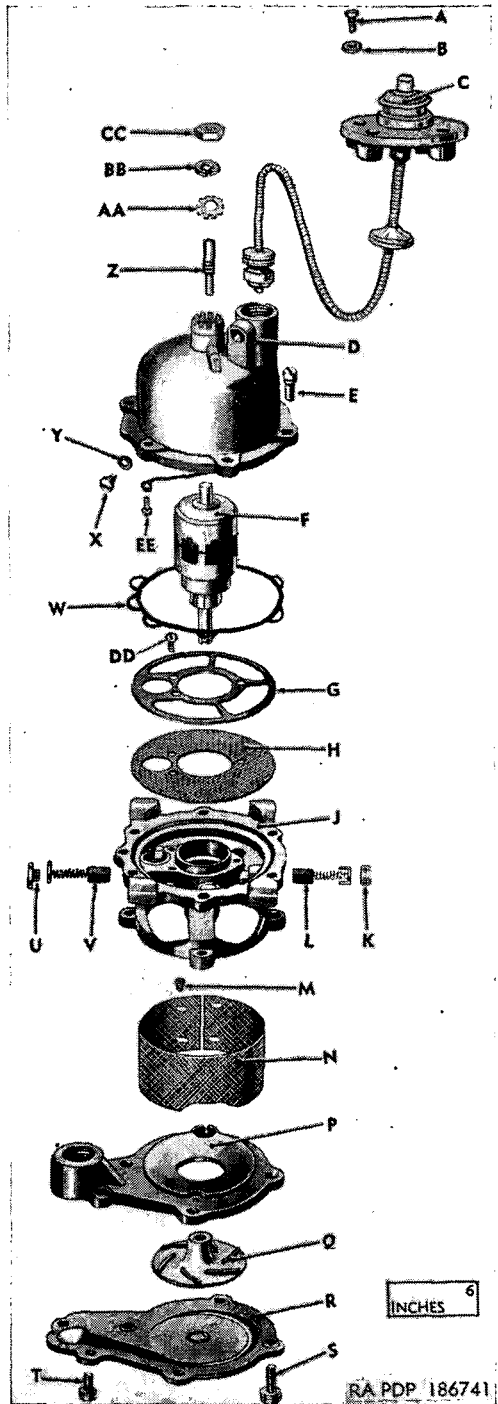

Figure 76. Typical Carter electric fuel pump—disassembled view.
- (1) *Cable assembly.* The cable assembly (C, fig. 76) includes the terminal bracket which is usually attached to the access hole cover of the fuel tank. The assembly provides an exterior connection for the feed wire carrying the electric current.
- (2) *Field housing, bearing, and coil assembly* (D, fig. 76). This assembly consists of the upper armature shaft bearing and the field and pole piece assembly. Both of these assemblies are staked into the die-cast housing.
- (3) *Armature assembly* (F, fig. 76). The windings of the armature are protected by pressed-on, die-cast shells. The silver commutator and armature shaft bearing journals are super-finished. If the commutator is worn or any of the windings are defective, the entire assembly must be replaced with a serviceable unit, since any disassembly will affect the dynamic balance of the assembly.
- (4) *Pump body assembly* (V, fig. 76). The pump body assembly houses the lower armature shaft bearing and the positive and negative brushes.
- (5) *Upper and lower volute and impeller and ball assembly.* The upper volute (P, fig. 76) has a tapered hole for connecting the fuel line to the pump. The upper and lower volutes are die-cast, and are attached to each other by means of screws
with no gasket between the adjacent surfaces. The impeller and ball assembly (Q, fig. 76) is dynamically balanced, and is driven by the end of the armature shaft where a groove engages a tongue in the impeller. A hardened ball is pressed into the impeller to act as a thrust bearing, and bears against a steel plate which is staked to the lower volute.
a. General. Before disassembling the fuel pump for servicing, obtain the proper repair package as listed in table V (par. 110). Refer to figure 76 for disassembly and subsequent assembly procedures.
b. Remove Cable Assembly From Pump. Remove cable lock screw (X) and lock washer (Y). Unscrew cable nut, and detach cable assembly (C) from the top of the field housing, bearing, and coil assembly (D).
c. Remove Outside Strainer. Remove strainer screws (M) from outside strainer (N) and discard strainer.
d. Remove Impeller. Remove four long and two short volute screws (S and T) with lock washers which attach upper and lower volutes (P and R) to pump body assembly (J). Remove lower volute (R). If impeller and ball assembly (Q) is stuck on armature shaft, use two screw drivers and, working from opposite sides with a twisting movement, remove impeller from armature shaft. Remove upper volute (P) from pump body.
e. Remove Brush Assemblies. Remove the larger of the brush screw plugs (U) from the side of the pump body. Lift out brush by insulated plate. This is the positive brush assembly (V). Remove negative brush screw plug (K) and brush assembly from opposite